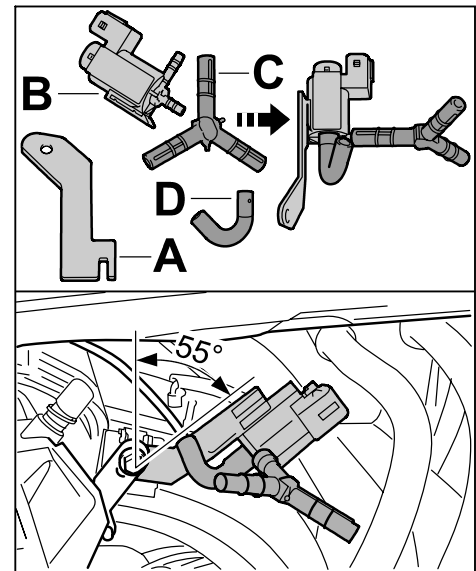

Figure 6
- 2.1 Clip in holder (996.111.989.00; ⇒ *Figure 6 -A-*) at the change-over valve (996.605.123.01; ⇒ *Figure 6 -B-*).
- 2.2 Connect Y-piece (1 x 928.573.727.03; ⇒ *Figure 6 -C-*) and bent protective tube (928.574.717.03; ⇒ *Figure 6 -D-*) to the change-over valve as required.
- 2.4 Position holder with change-over valve at an angle of approx. 55° and fit it and the reservoir support on the intake distributor for cylinders 4-6 (⇒ *Figure 6 -bottom-*).